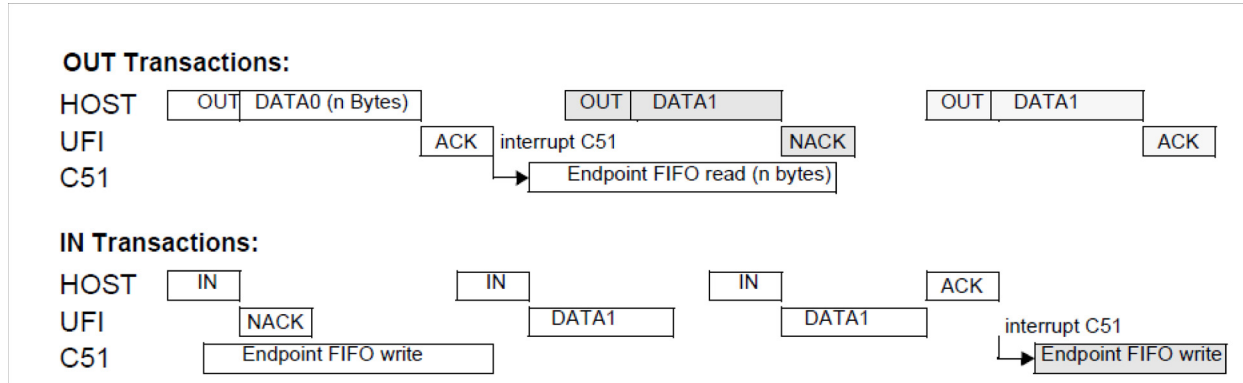

Figure 11.3 Typical Transaction
- Forwards all class or vendor control transfers to Endpoint 0 and transactions to non-zero control endpoints. The application must decode 8 setup packet bytes and act on them. The transaction flow is explained in Figure 11.3 on page 121.